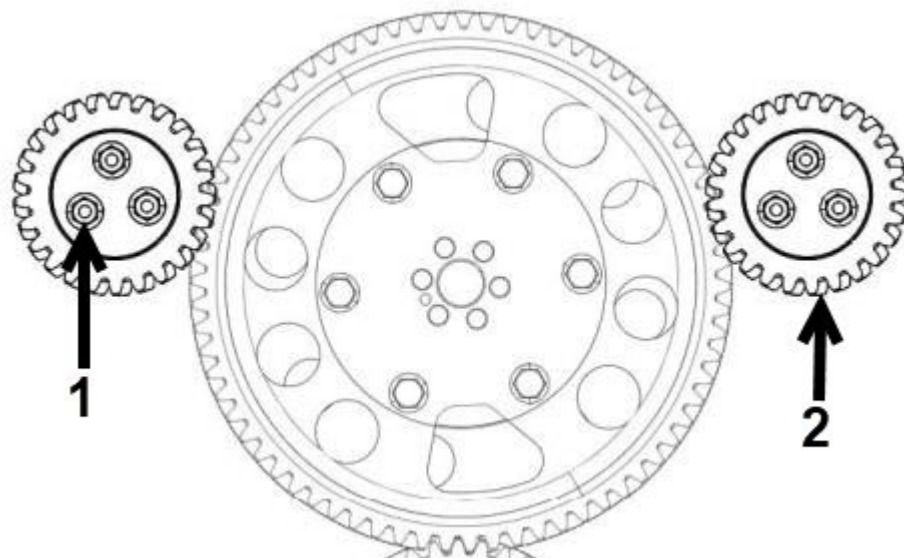

Figure 138.
5. Install the two intermediate gears (Figure 138, Item 2) next to the camshaft gear and torque the bolts of the intermediate gears to 52 ft/lb.